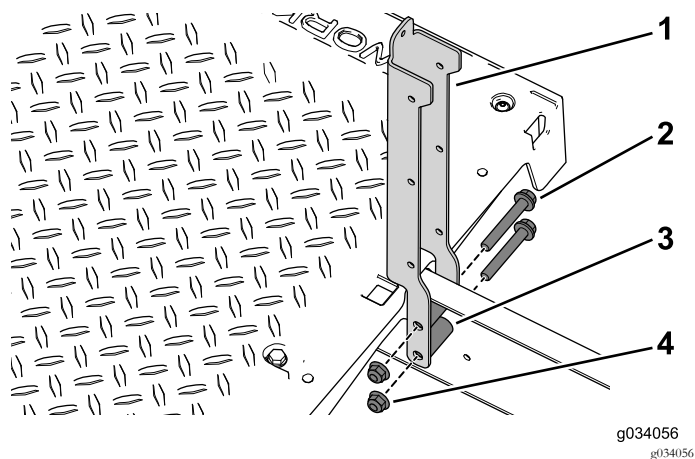

Figure 93
2. Use the 4 flange bolts (3/8 x 2-1/2 inches), spacers, and flange nuts to secure the left and right seat supports to the machine (Figure 93).